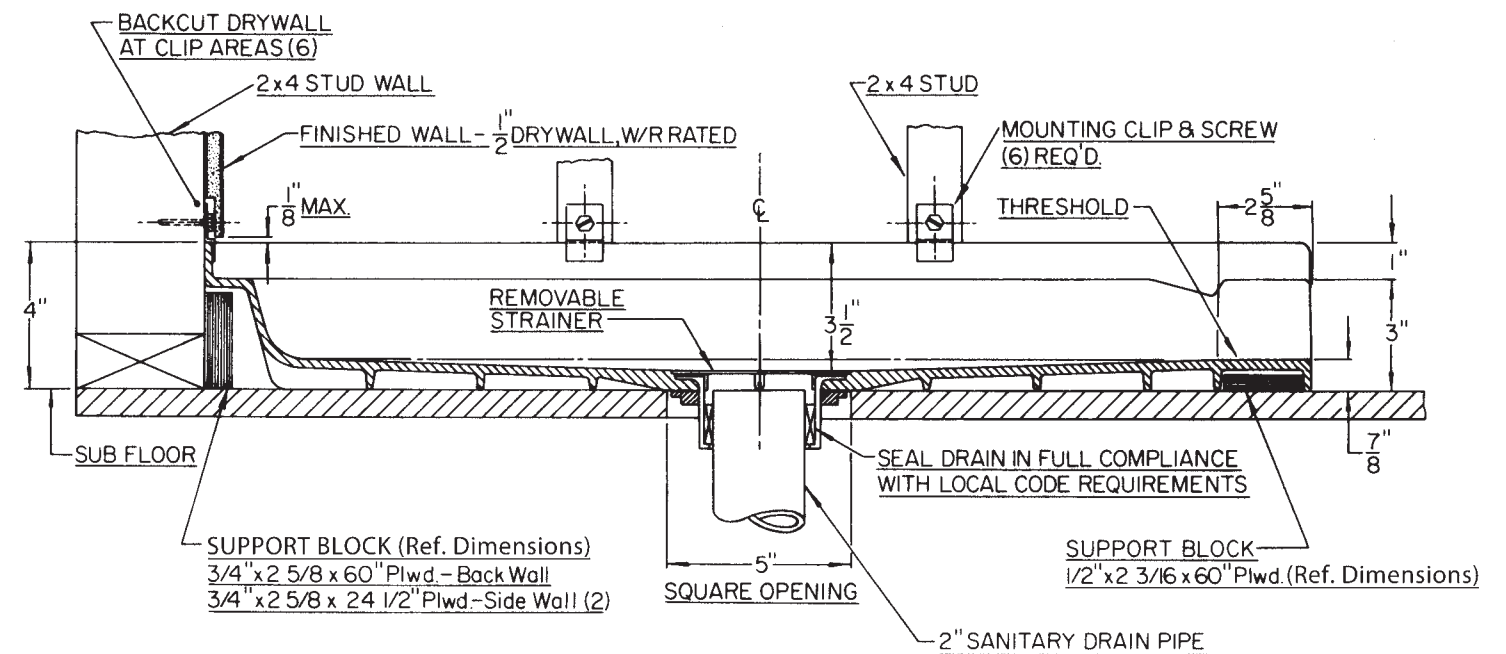

FIG. 1.
6. You have been furnished with six (6) mounting clips to secure the Shower Floor, do not drill holes in Shower Floor. Position two (2) clips per side and back, resting clip on top edge of tiling flange and securely fastening to stud or bracing with screws provided. See Fig. 1.
HINT: To reduce "creaking or squeaks" we suggest that deck type screws (3" min. length) along with adhesive, be used to secure the sub-floor to the joists-especially under the Shower Floor and Entry Ramp (if so equipped). Fig. 1.